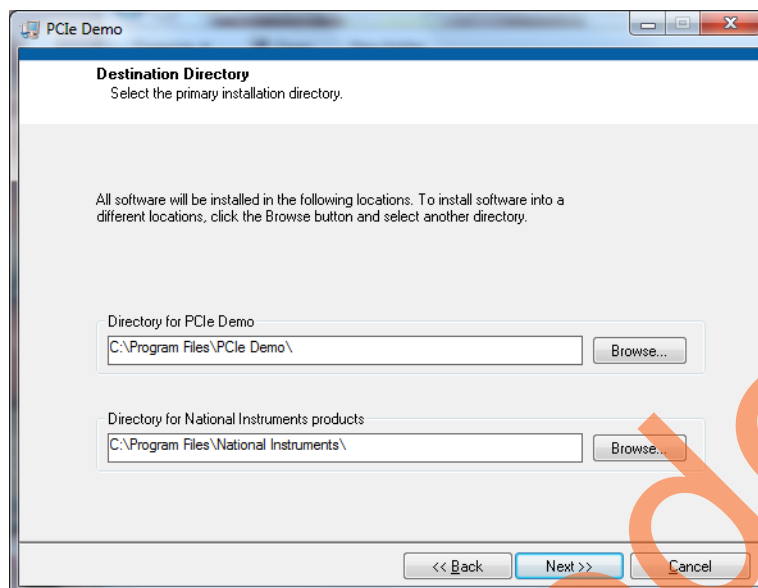

Figure 11 • GUI Installation
3. Double-click the **setup.exe** in the provided GUI installation (*PCIe_Demo_GUI_Installer/setup.exe*). Apply default options as shown in Figure 11.